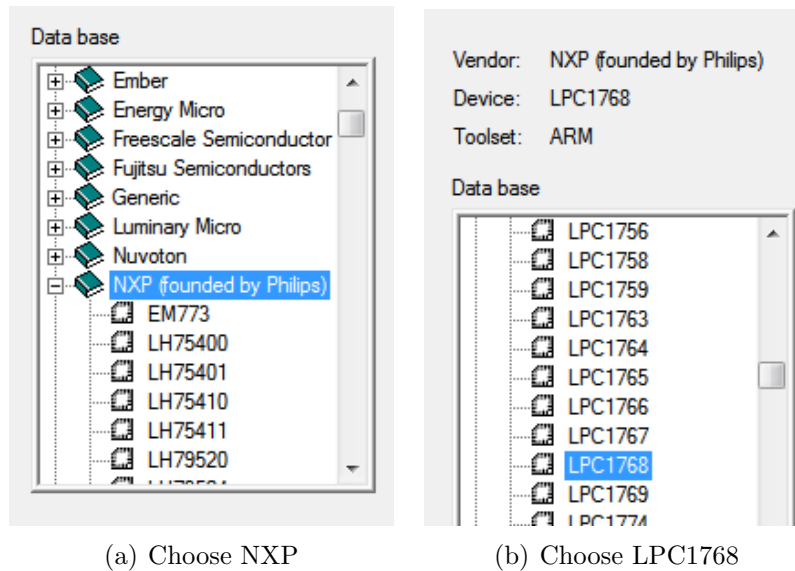

Figure 8.2: Keil IDE: Choose MCU
- Choose NXP(Founded by Philips)  $\rightarrow$  LPC1768 (See Figure 8.2(a) and Figure 8.2(b))